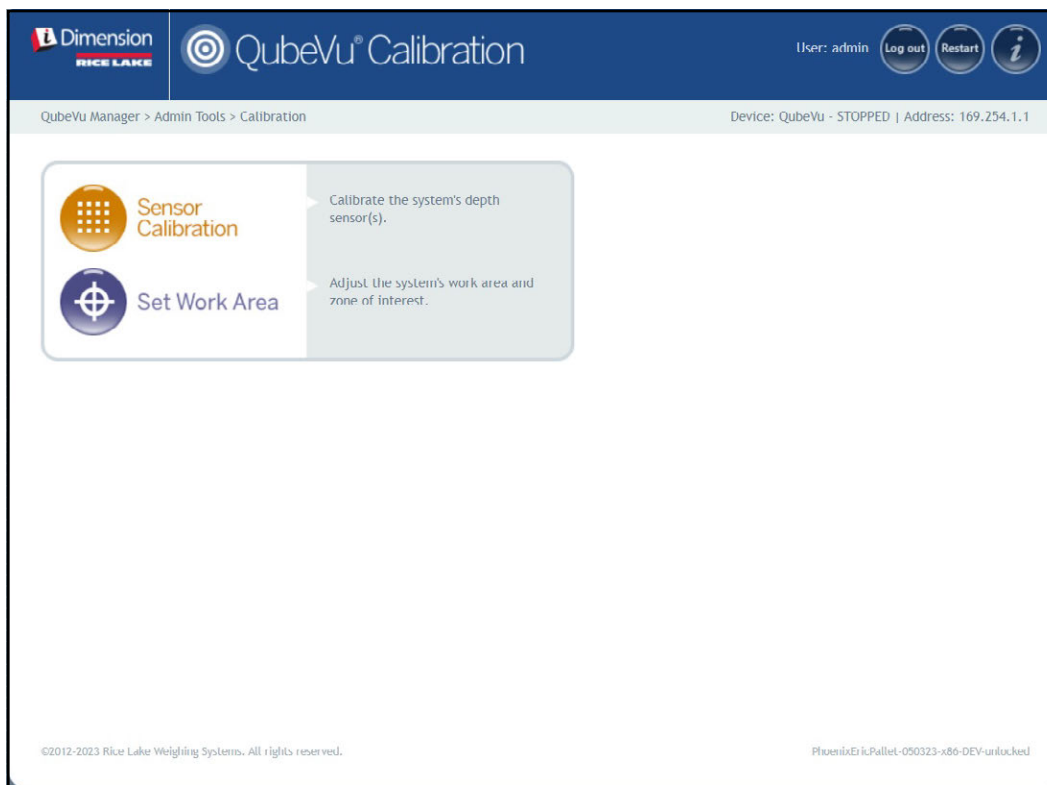

Figure 6-2. Calibration Menu
1. Select  **Sensor Calibration** from the **Calibration** menu (Figure 6-2 on page 43). The **Sensors Calibration** menu displays.
1. Select  **Sensor Calibration** from the **Calibration** menu (Figure 6-2 on page 43). The **Remote Sensors Calibration** menu displays.